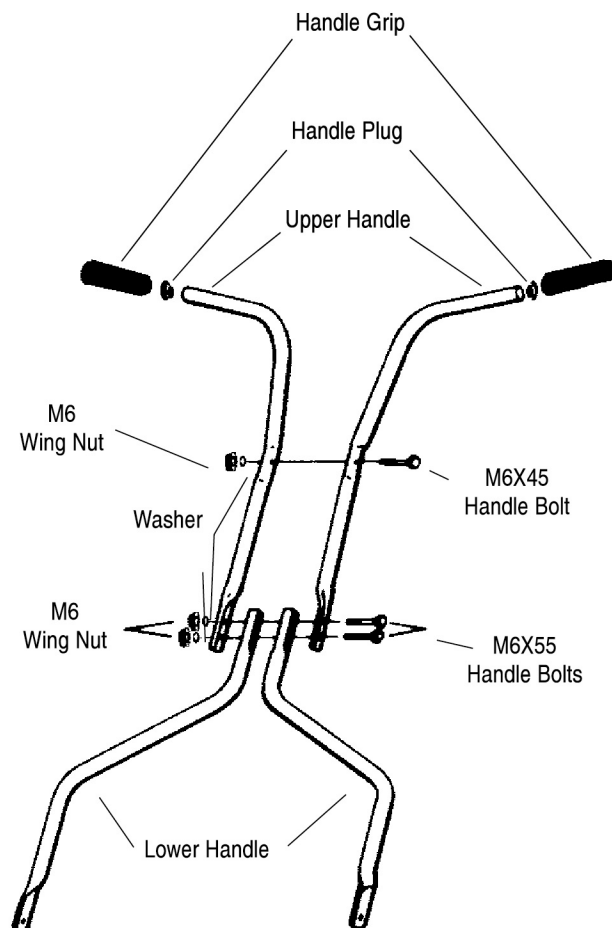

FIGURE 1
1. **Lay out** the parts of the handle as shown in **FIGURE 1**.